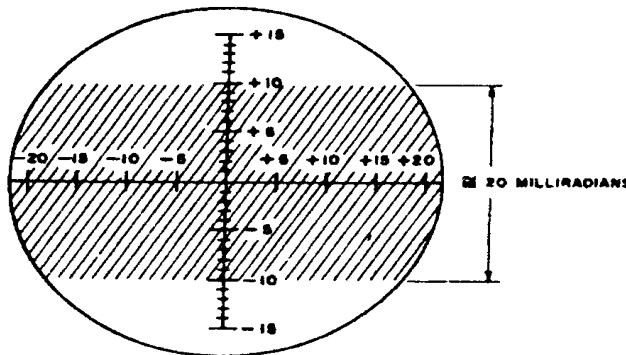

Figure 4. Horizontal filament image.
f. Manually rotate the TI prism until the filament is horizontal, figure 4. Adjust the gimbal mounts control to recenter the image as required.
h. Position the top edge of the image at +10 on the reticle, figure 4.